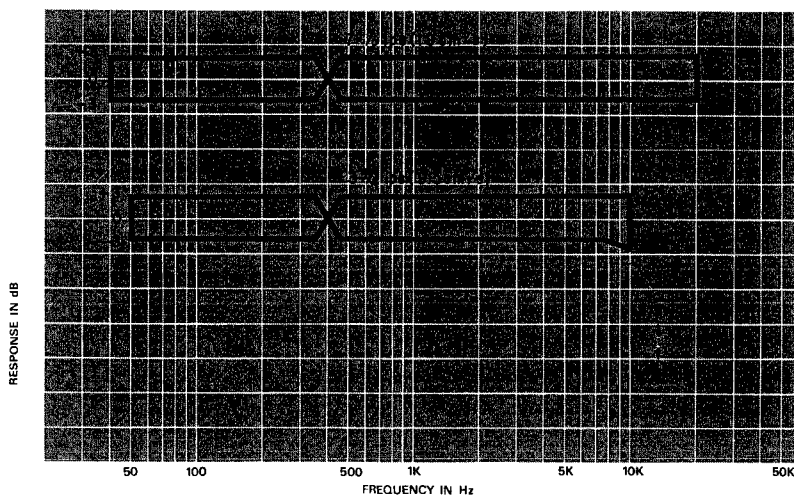

Fig. 7-4 Frequency Response -Playback-
6. Compare the readings obtained on the level meter with the response limits given in figure 7-4.